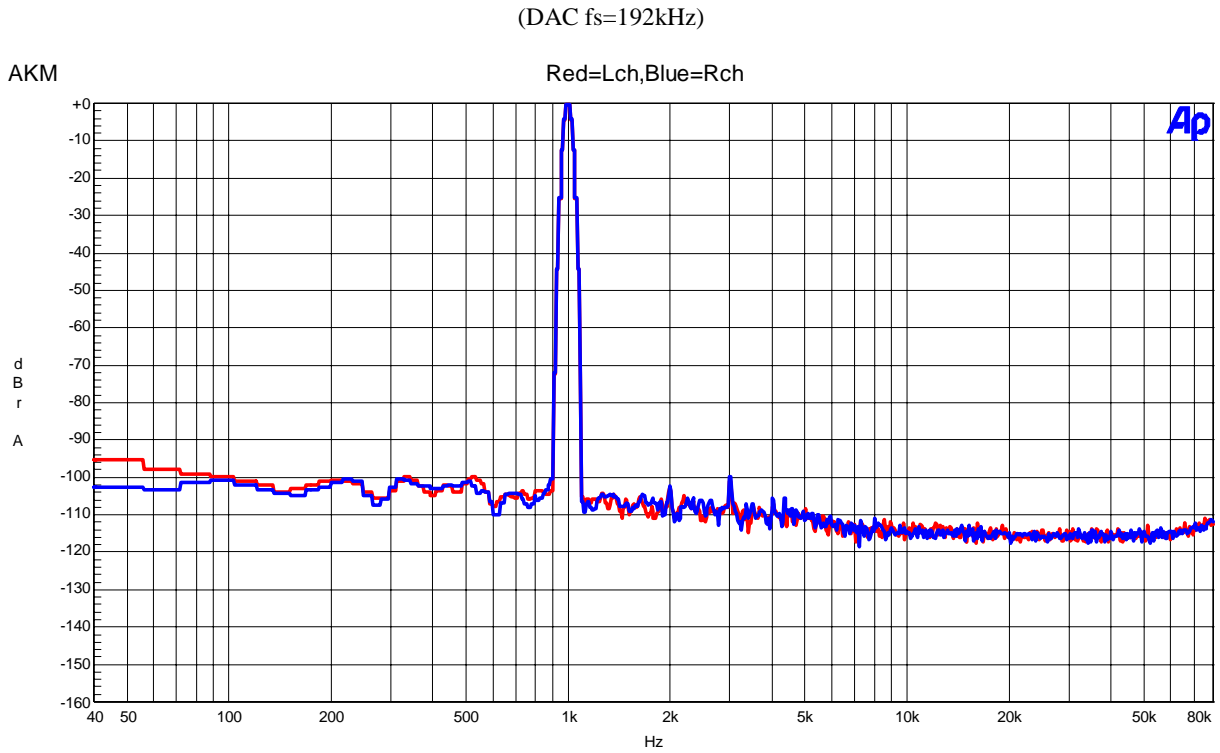

Figure 43. FFT(Input Frequency=1kHz, Input Level=0dBFS)
- Figure 43. FFT (noise floor)